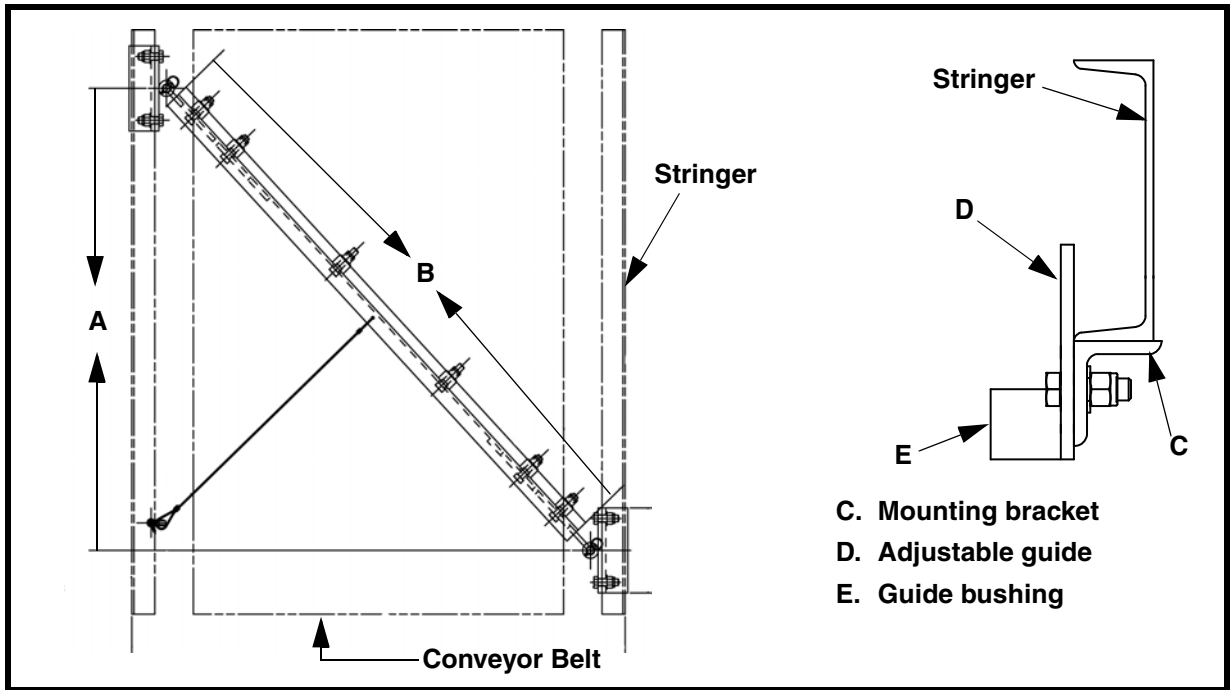

Figure 2. Locating Mounting Brackets on Stringers
2. Install mounting bracket (C, Figure 2) on left side of belt as follows:
- c. Install adjustable guide (D) onto mounting bracket with two hex head cap screws, flat washers, and elastic lock nuts.
- a. Starting from center of guide bushing (E) on left end adjustable guide, measure toward tail pulley the distance shown under “Dimension A” in Table I. Mark location on left side stringer.